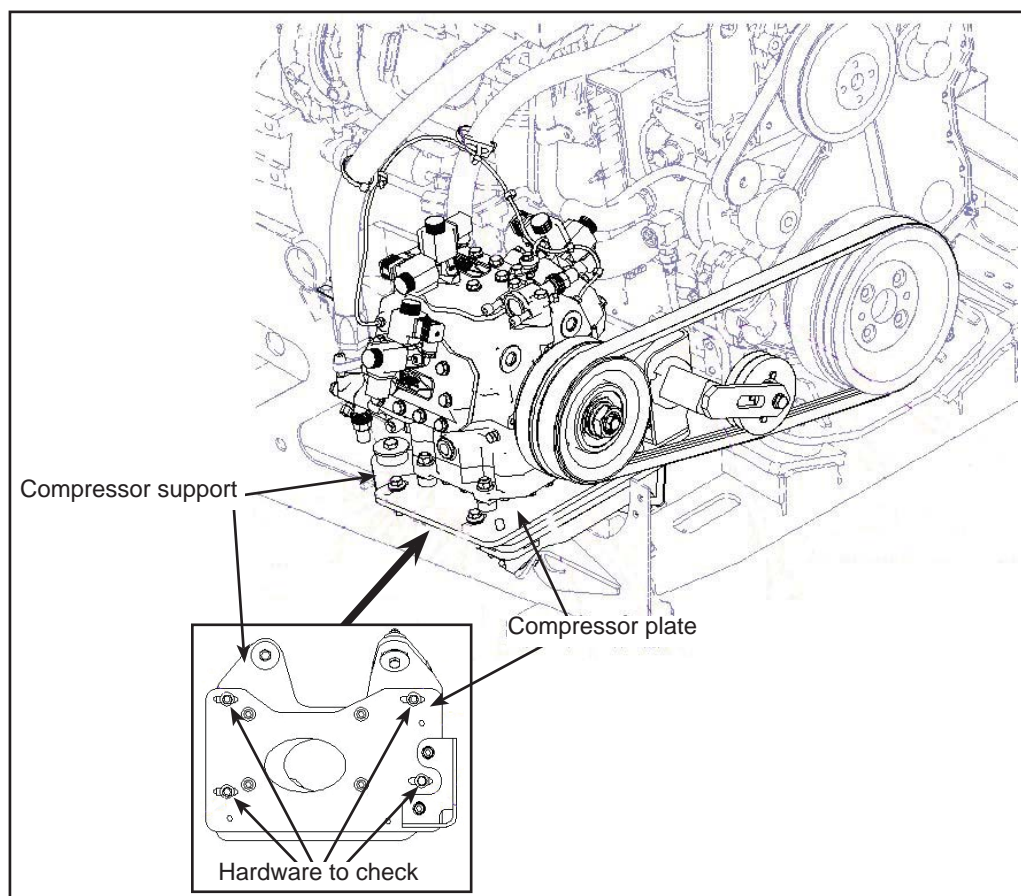

Figure 1 - A/C Compressor Location
- 1.2. Locate the A/C compressor. See Figure 1.
- 1.4. Check if M12 Nordlock washers (8x), M12 class 10.9 bolts (4x) and M12 class 10.9 nuts (4x) which maintain the compressor plate on the A/C compressor support, are already installed. See Figure 1. If not in place, go to Level 2.